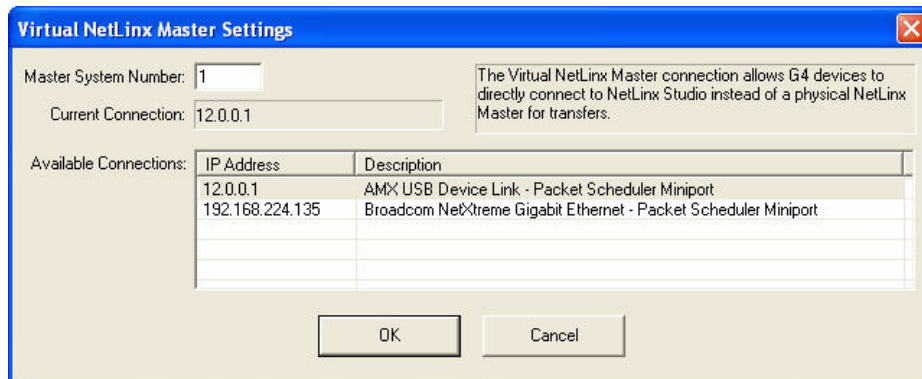

FIG. 100 Virtual NetLinx Master Settings
5. Click the **Edit Settings** button on the *Communications Settings* dialog to open the *Virtual NetLinx Master Settings* dialog (FIG. 100).